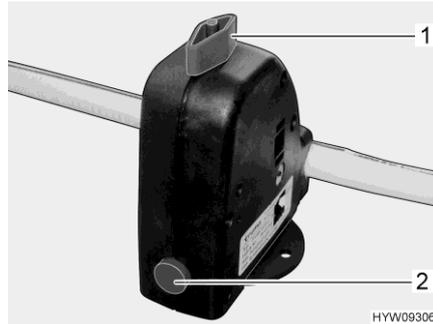

Fig. 126 Safety/drainage valve (Truma)
- Close the safety/drainage valve (Fig. 126). Turn the knob (Fig. 126,1) perpendicular to the safety/drainage valve and push the push button (Fig. 126,2) in.